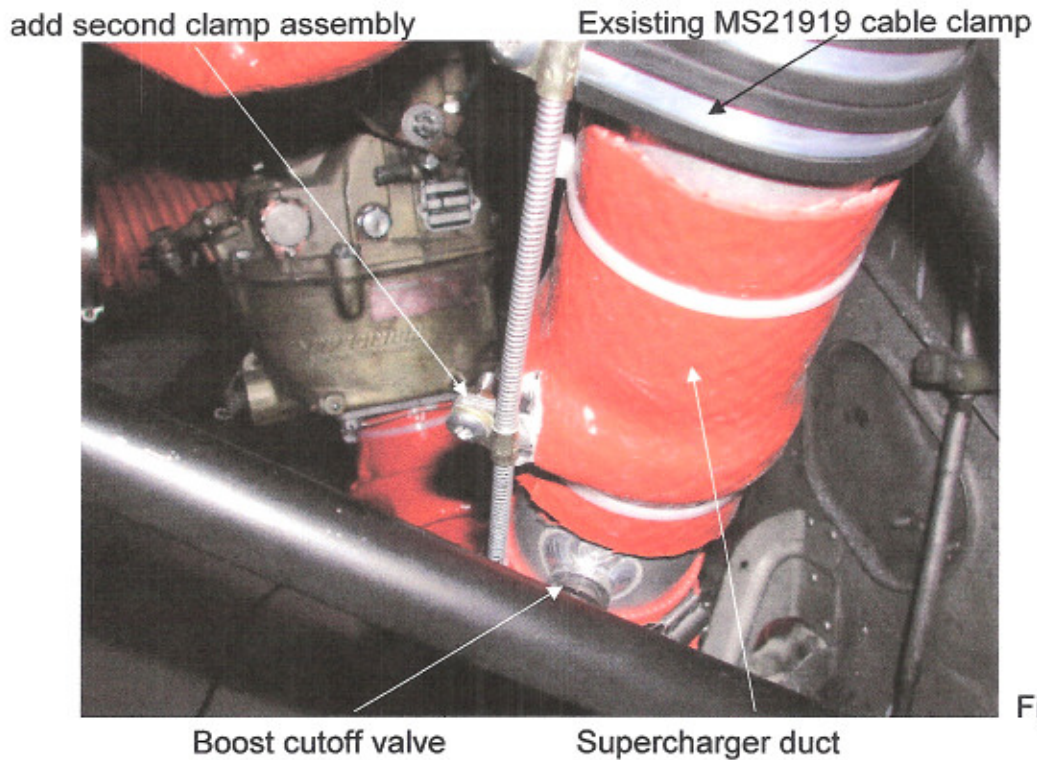

Figure 4
4. Install a second clamp assembly on the boost cable as close as possible to the boost cutoff valve (figure 4). The second clamp assembly is made from an AN742-D3 and an MS21919 DG40 clamp, the same as the existing cable clamp. Check for smooth operation of the boost cutoff cable.